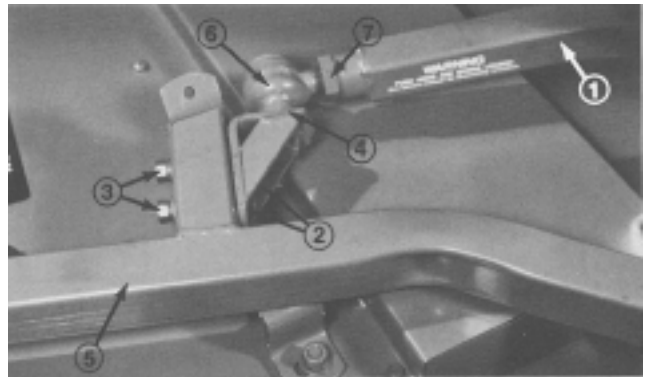

Figure 25
6. Have a helper push down on the left push arm while you remove the capscrews, flatwashers, lockwashers and nuts securing ball joint mount to mount bracket on cutting unit (Fig. 25). Now the helper can carefully allow push arm to move upward, which will gradually release the 150 pounds (667 N) of spring load.